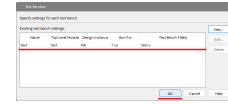

Figure 24: Click "OK"
15. Click "OK" in "Test Benches". (Figure 24)